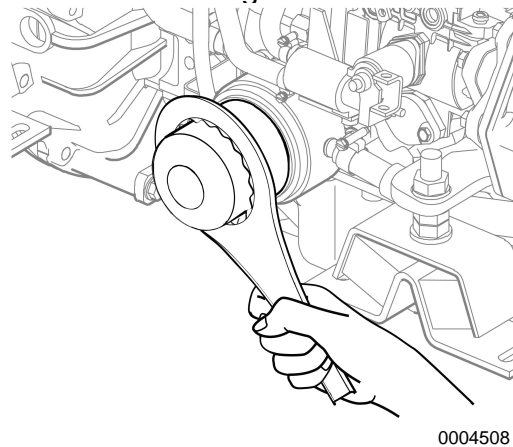

Figure 2
3. Turn the engine oil filter (**Figure 2**) counterclockwise with a wrench.